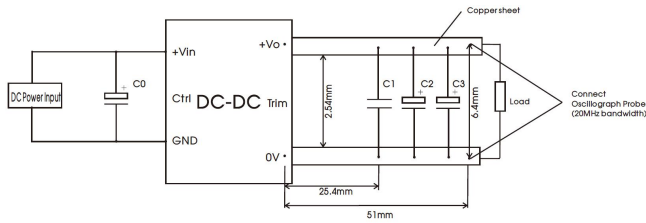

Fig.2
Note: ①The "Tip and barrel method" is used for ripple and noise test, for details please refer to Fig.2.
All the DC-DC converters of this series are tested before delivery using the recommended circuit shown in Fig.2.